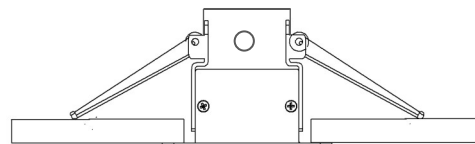

FIG. 8
- Insert the fitting and let go of the spring clips that will secure the fitting into the ceiling cavity as seen in Fig. 8.